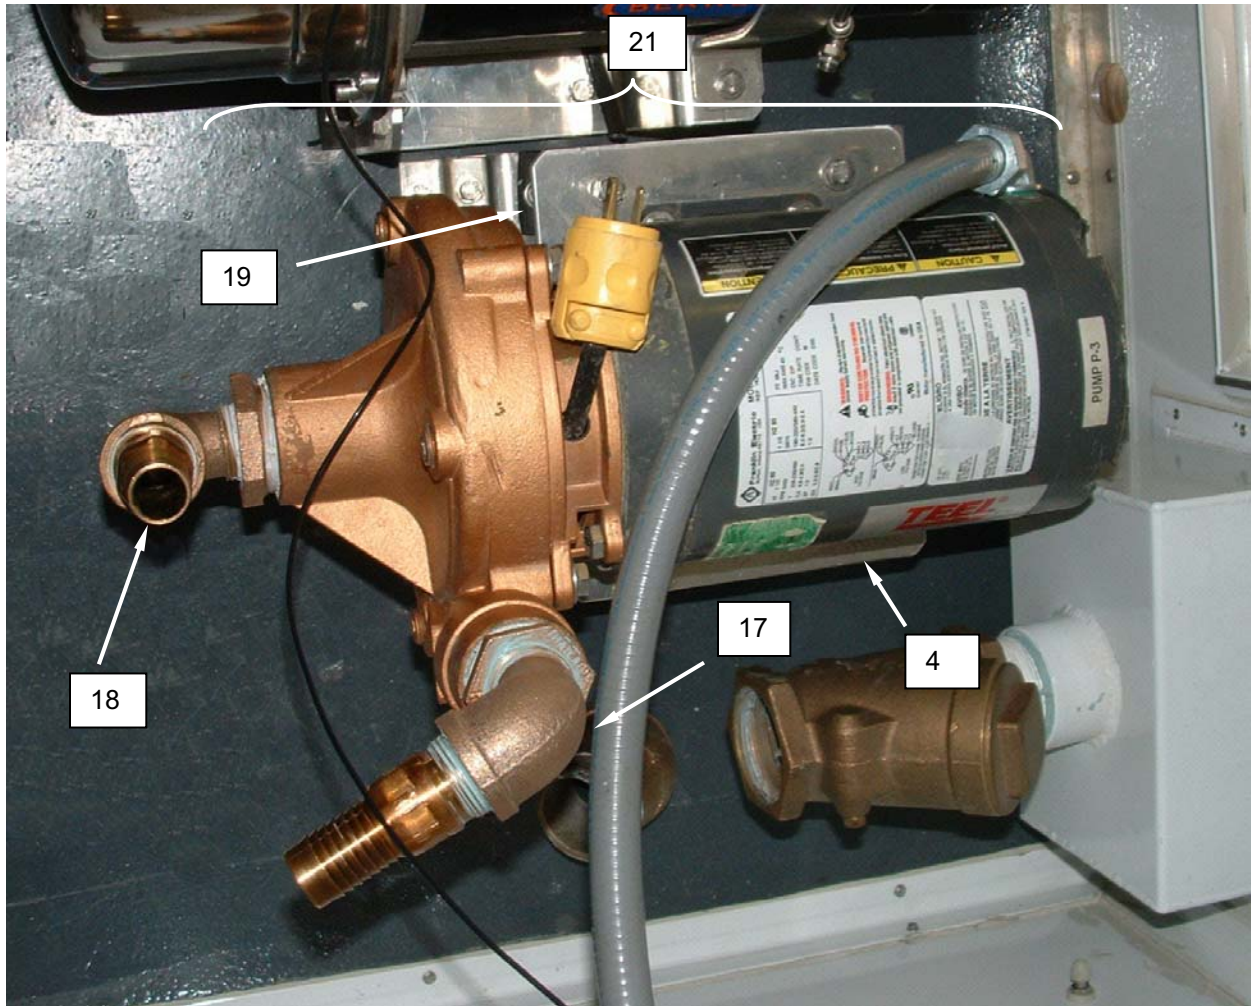

Figure 6. Replace the P-3 Pump Assembly.
6. Note alignment of pump suction fittings (**Figure 6, Item 18**) and unscrew fittings as an assembly from the pump housing.
19. Install pump suction fittings (**Figure 6, Item 18**) as an assembly, and ensure alignment is correct.